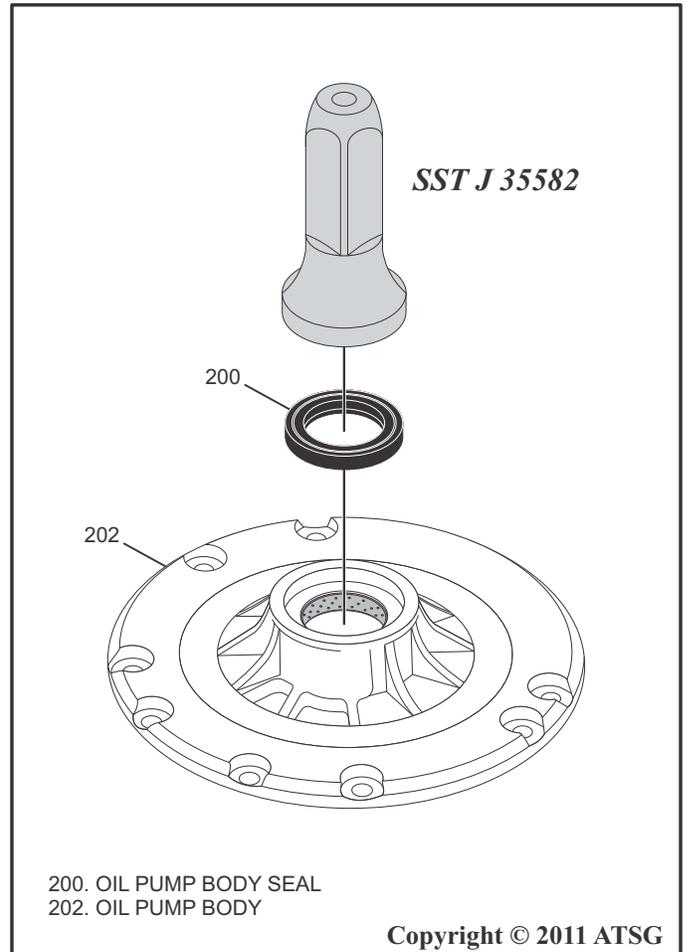

Figure 101
24. Using SST J 35582 or other similar seal installing tool, install a new Oil Pump Body Seal as shown in Figure 101.